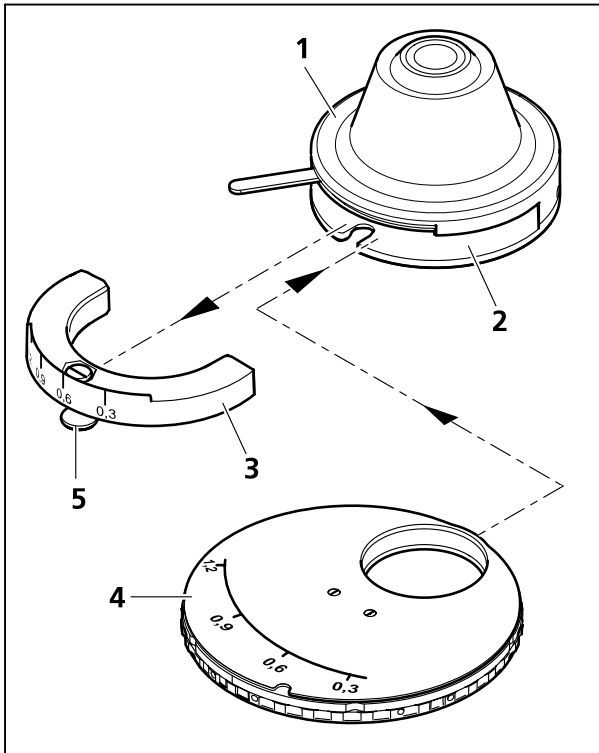

Fig. 3-50 Modulator disk in condenser
- Remove the condenser (Fig. 3-50/1) from the condenser carrier (see chapter 3.1.12). If the condenser cannot be lowered sufficiently, e.g. with mounted overview fixture, then it might become necessary to remove it with the stage carrier, then lower it to the stop and remove the condenser.
- Loosen the clamping screw (Fig. 3-50/5) of the condenser's dial segment (Fig. 3-50/3) with the screwdriver (SW 3) and pull out the dial segment.
- Slide the modulator disk (Fig. 3-50/4) with its two-pronged forked opening pointing forward into the condenser. Make sure that the disk engages in the guide on both inner sides of the condenser. The guide serves as a stop for the modulator disk. The pin of the disk's clamping screw must slide into the orientation groove of the condenser.